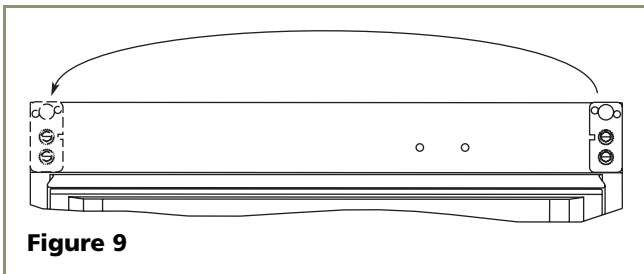

Figure 9
- With bottom of door facing up, remove pivot plate (2 screws), flip over, and remount on opposite side of door (see **Figure 9**). Be sure notch in plate faces center.